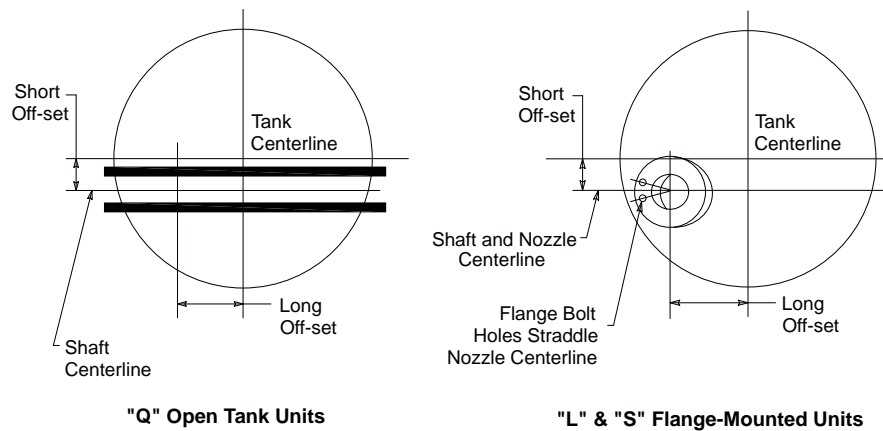

Figure 4 – Mixer Positioning Data Based on 10° Angular Off-Set Mounting
2.6 For Mixer Positioning Data for fixed mounted "Q", "L", and "S" Units on unbaffled tanks, refer to Figure 4 and Table 1.